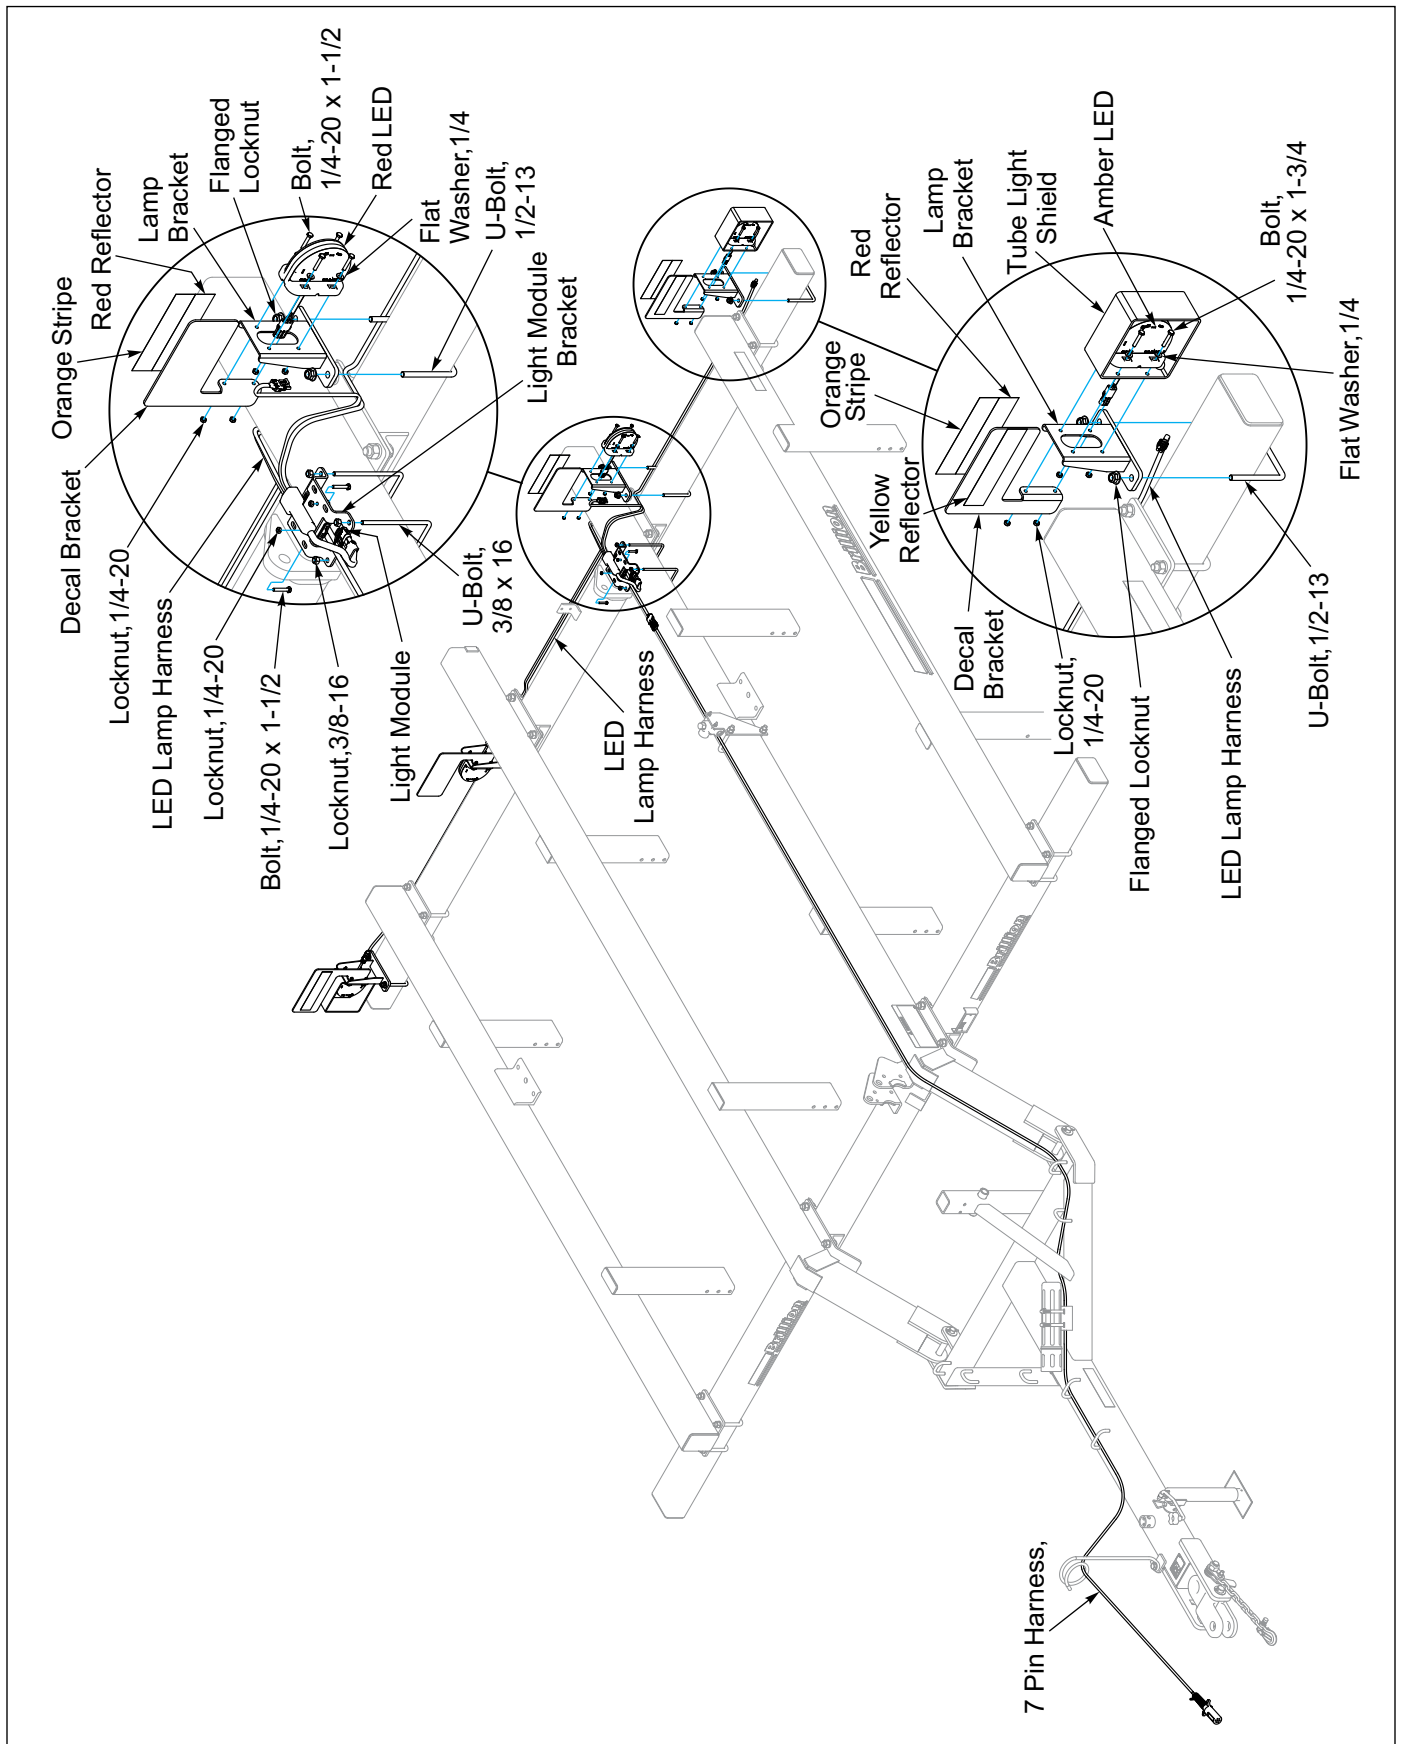

Figure 2-29: LED Lamp Installation
2. With the Red LED Lamp facing rearward, attach the Lamp to the outside and the Decal Bracket to the inside of the Lamp Bracket using 1/4-20 x 1-1/2 Screws and Locknuts. **See Figure 2-29.**
4. Place the Amber LED inside the Light Shield. Attach Lamp and Shield to the outside and the Decal Bracket to the inside of the Lamp Bracket with 1/4-20 x 1-3/4 Screws and Locknuts. **See Figure 2-29.**
10. Apply the reflector decals to Decal Plate Mounts. The amber reflector decals should be front facing on the outer Decal Plate Mounts. The red reflector decals and orange decals should be rear facing on both the inner and outer decal plate mounts. **See Figure 2-29.**